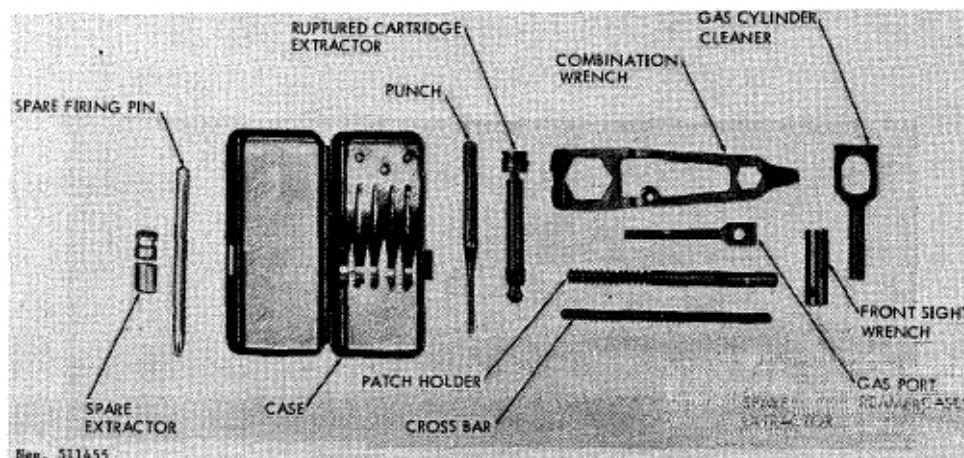
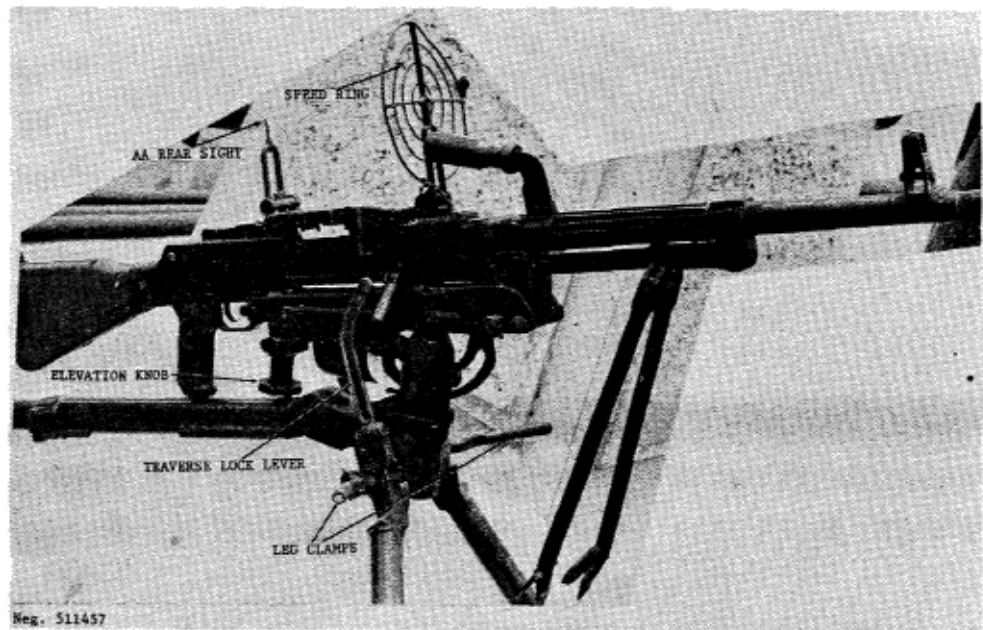

Figure 156. RPD accessories.
Figure 158. Type 67 on its tripod mount.
- (1) Combination tool kit.
- (2) Belt drums.
- (3) Fabric sling.
- (4) Night-sighting device.
- (5) Blank-firing device.
b. The combination tool kit (fig 156) contains a combination wrench and screwdriver (for use in turning the gas regulator and bipod screws), a gas cylinder cleaner, a reamer for the gas port, a front sight wrench, ruptured cartridge extractor, a pin punch, a cleaning rod tip, and a handle bar. The handle bar is inserted into the front-sight wrench or the gas cylinder cleaning tool in order to rotate them. The ruptured cartridge extractor is
b. The Type 67 machinegun is a gas-operated, belt-fed, bipod- or tripod-mounted (fig 158) automatic weapon equipped with a quick change barrel. This gun utilizes the design features of several other weapons: the Russian DP trigger mechanism (para 177), the Czechoslovak ZB30 bolt mechanism (para 195), and a modified Maxim-type feed mechanism. The quick change barrel system is copied from the Russian SG43 (para 215) and the gas regulator is similar to that in the Soviet RPD (para 179). The Type 67 machinegun cannot use the pull-out type feed belt used in most Communist weapons, but must rather use a push-out type belt similar to that used in the Czechoslovak Vz59 machinegun (para 209).
b. The antiaircraft sights (fig 158) consist of a permanently mounted post on the top of the rear sight (fig 156) and an adjustable speed ring sight. The speed ring (fig 158) is attached by fitting its base with the dovetail cuts on the front top of the cover, and then sliding the sight rearward until its lock snaps into place. To remove the AA sight, lift the lock and slide the sight forward.
c. The tripod mount is set up by loosening the leg clamp (fig 158); swinging the legs to the desired position and tightening